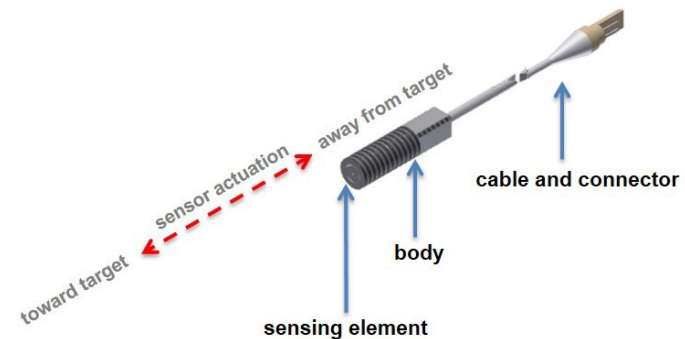

Figure 3. Non-Contact Sensor Actuation
1. Connect a LORD Sensing LVDT (shown in Figure 3) to the 4-pin LEMO sensor cable.